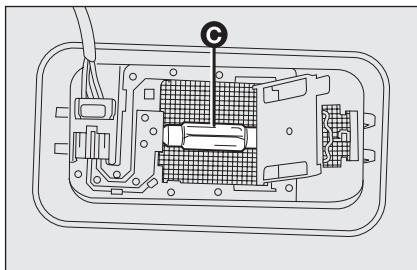

fig. 43
- ☐ replace bulb **C-fig. 43** releasing it from the side contacts. Then, insert the new bulb making sure it is correctly clamped between the contacts;